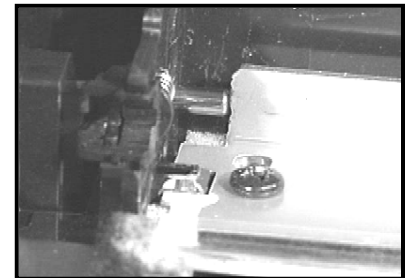

Figure 1
1. In order to separate the two halves the pins must be removed. The pins in the LJ2100 cannot be pushed in from the outside because the wiperblade bracket is in the way (fig. 1).